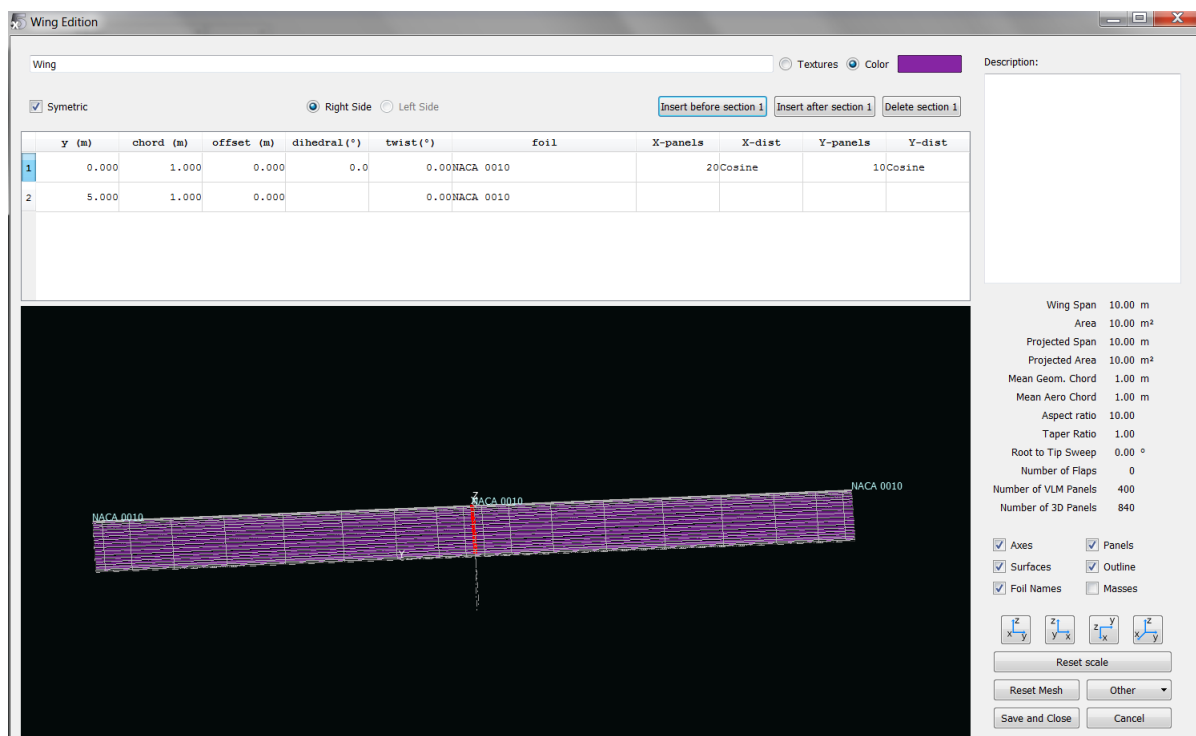

Figure 2: Wing creation parameters
- Enter the parameters as seen in **Figure 2** below: